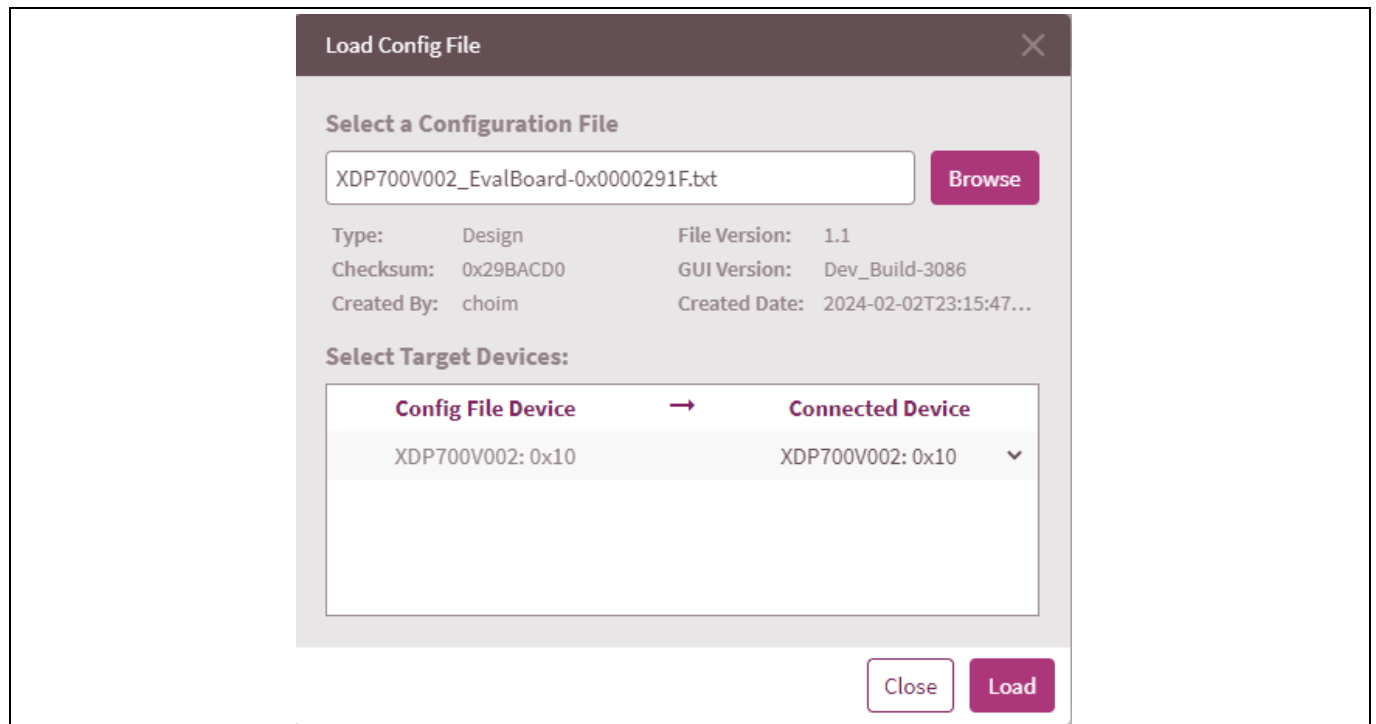

Figure 39 Load to load the selected configuration file
3. Click **Load** to load the configuration onto the device, as shown in Figure 39.